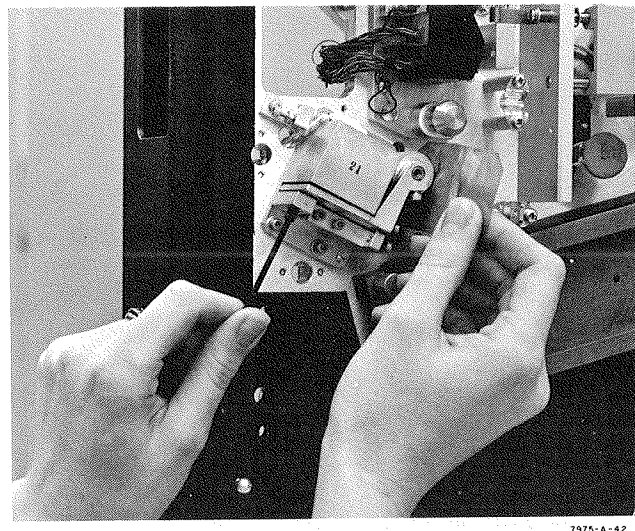

Figure 6-9. De-energized Actuator Adjustment
- (1) Remove tape from machine.
- (2) Adjust back-gap adjustment screw (figure 6-9) to obtain 0.005 ( $\pm 0.001$ )-inch gap between the pinchroller and the capstan.